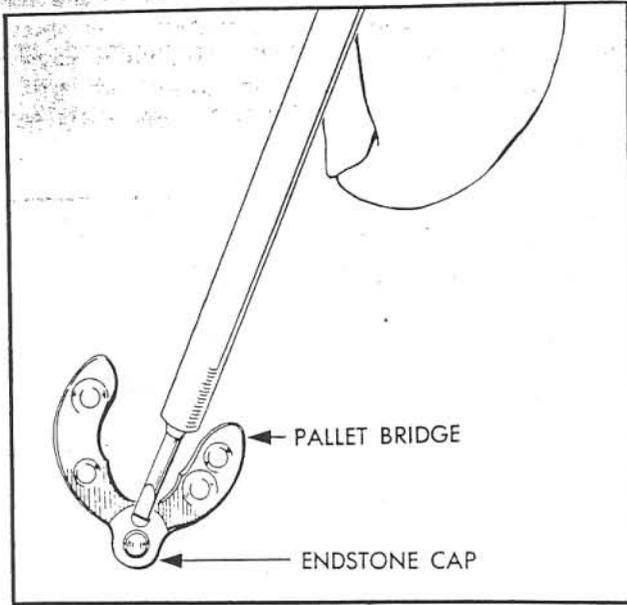

Figure 28—Installing Pallet Endstone Cap
(7) **PALLET AND PALLET BRIDGE.**—Fasten the pallet upper endstone cap to the pallet bridge (figure 28). Set the pallet assembly in position in the pallet lower jewel with the pallet arm between the banking